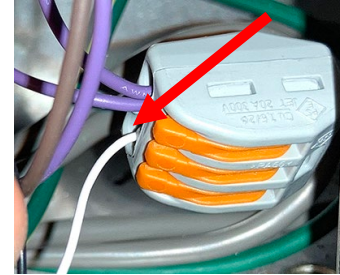

Figure 8
7. Disconnect the white & black wires from the harness in the previous step from the Wago snap connectors (see Figure 8 & 9. Tie the wire harness up out of the way.